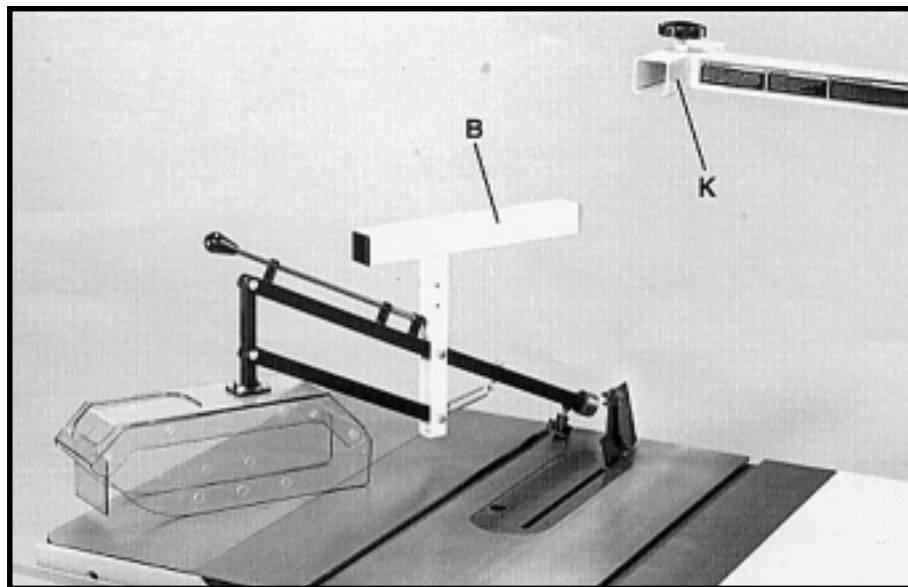

Fig.23
20. Insert mounting bracket (B) Fig. 23. of the blade guard basket assembly into the "T" of the adjusting arm (K).